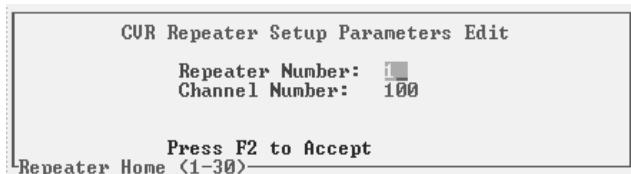

Figure 3-7 SETUP PARAMETERS
This programs the Receiver parameters and options of each CVR at a Site. The following paragraphs explain the parameters that are set by this screen (see Figure 3-7) and give a brief description of each.
6. The Setup Parameters screen appears (see Figure 3-7). Fill in the parameters for this repeater. A brief description of the parameters is in Table 3-1. Full descriptions are in Section 3.2.3.